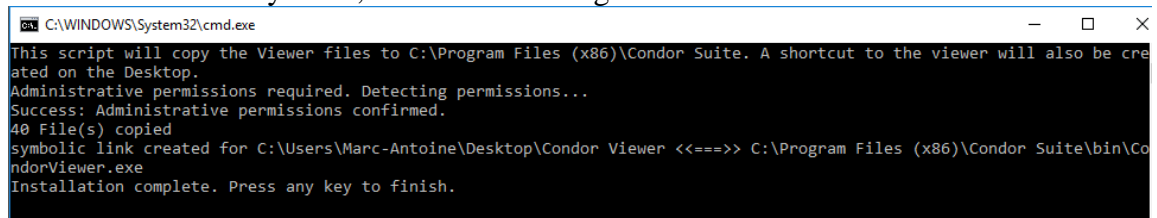

Figure 4: Successful install window
- b. Inside that folder, right-click “setup.bat” and click “Run as Administrator”. If no error occurred, a window like the one shown in Figure 4 will appear. If an error occurs, the window will instantly close, or an error message will be shown in the console.